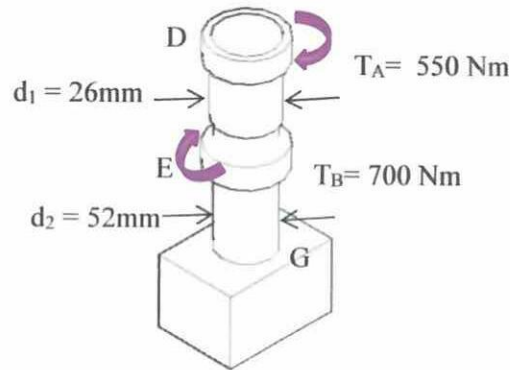

Figure 4(a)
- Q4 (a) Pulleys D and E, which are attached to solid circular DE and EG, are subjected to the torque illustrated in Figure 4(a). Determine the minimum diameter of shaft EG for which the maximum shearing stress in the assembly is not raised in order to lower the overall mass of the assembly.